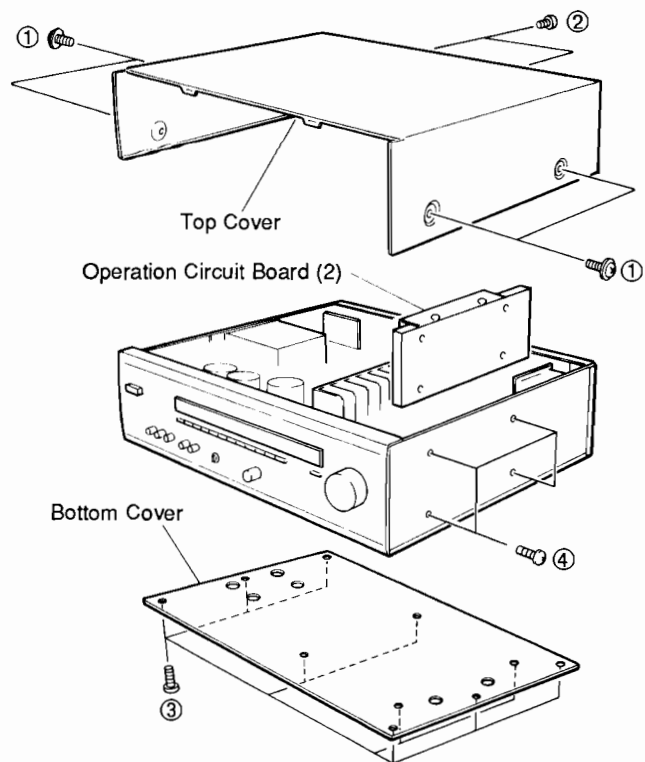

Fig. 1
- a. Remove 4 screws (①) and 2 screws (②) in Fig. 1.
Remove 10 screws (③) in Fig. 1.
3. Removal of Operation Circuit Board (2)
Remove 4 screws (④) in Fig. 1.